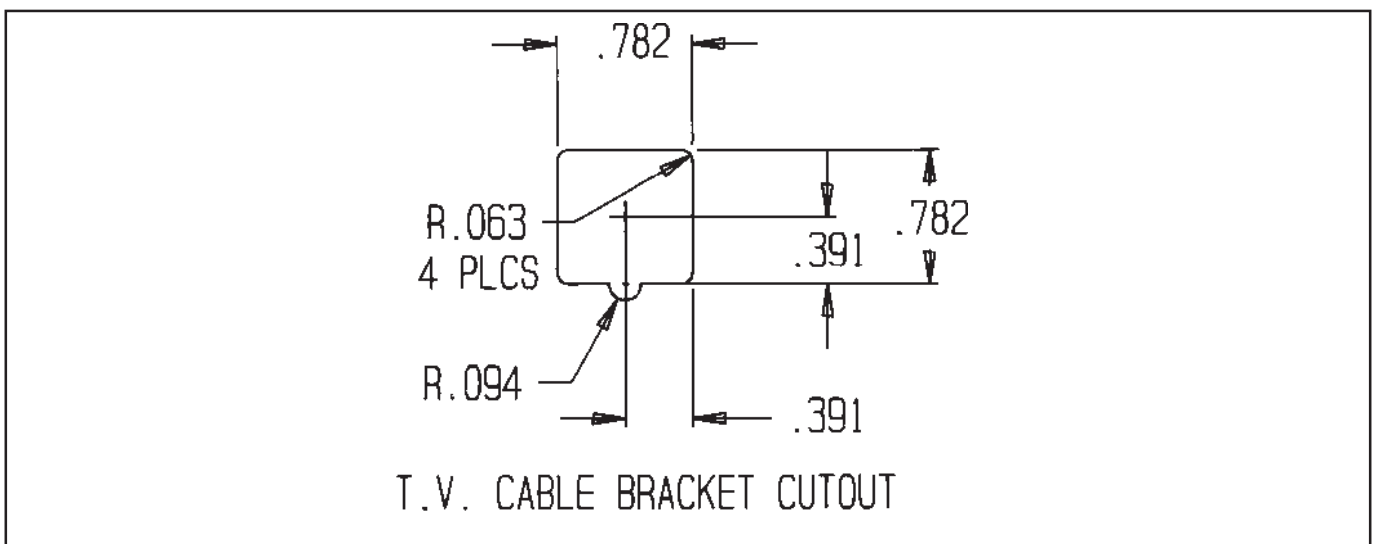

Figure 18
**STEP 4.** Fabricate T.V. cable bracket using 0.090 - 0.125 in. sheet metal (See Figure 18) for the adjuster housing cutout dimensions. If you use the thicker stock a chamfer will be required on two sides of the cable mounting cutout to allow the lock tabs to expand properly. The T.V. cable adjuster requires a pull of about 18 lbs. to ratchet out, so try to make the mounting bracket as rigid as possible. If the mounting bracket flexes the T.V. pressure will not be consistent.